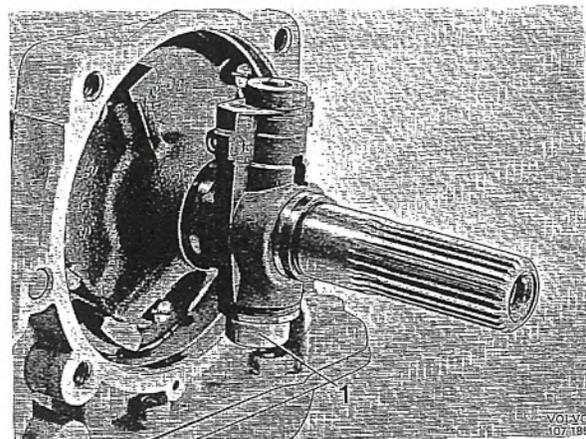

Fig. 4-86. Removing governor
33. Release the bolt and pull the governor off the shaft, see Fig. 4-86.